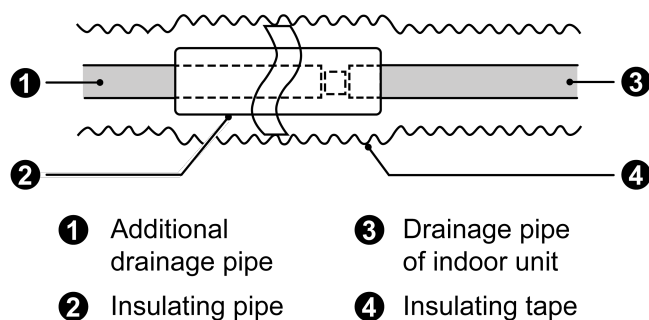

Fig.4.3.1
- (1) It is not allowed to connect the condensate drain pipe into waste pipe or other pipelines which are likely to produce corrosive or peculiar smell to prevent the smell from entering indoors or corrupt the unit.
- (2) Incorrect installation of the indoor unit may result in inadequate drainage, potentially causing bacterial growth and associated health hazards. Inadequate drainage may also lead to corrosion of the unit.
- (3) Setting the unit at an angle opposite to the drain piping might cause leaks.
- (4) It is not allowed to connect the condensate drain pipe into rain pipe to prevent rain water from pouring in and cause property loss or personal injury.
- (5) Condensate drain pipe should be connected into special drain system for air conditioner.
- (6) The drainage pipe should be short and the gradient downwards should be at least 1%~2% in order to drain condensation water smoothly.
- (7) The diameter of drainage hose should be bigger or equal to the diameter of drainage pipe joint.
- (8) Install drainage pipe according to the following Fig.4.3.1. and arrange insulation to the drainage pipe. Improper installation may lead to water leakage and damp the furniture and other things in the room.
- (9) You can buy normal hard PVC pipe used as the drainage pipe. During connection, insert the end of PVC pipe into the drainage hole and then tighten it with drainage hole and wire binder. Can't connect the drainage hole and drainage hole with glue.
- (10) When the drainage pipelines are used for several units, the position of pipeline should be about 100mm (4 inch) lower than the drainage port of each unit. In this case, thicker pipes should be applied.